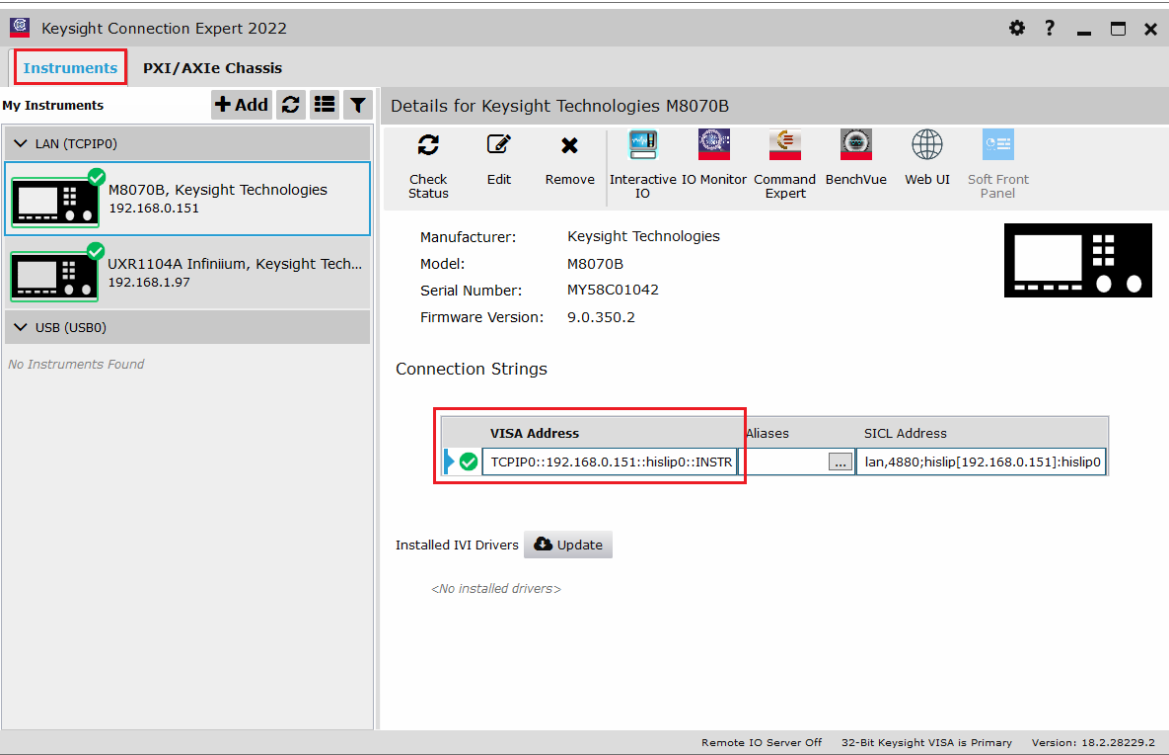

Figure 17 Keysight Connection Expert
- 2 A window similar to that shown in **Figure 17** is displayed. If you are not familiar with the Connection Expert, click the question mark (top right) for help or to watch a short introductory video.
- 4 Select one of the instruments you want to connect and verify that its **VISA Address** appears as shown (larger red frame in **Figure 17**) with a tick beside it.